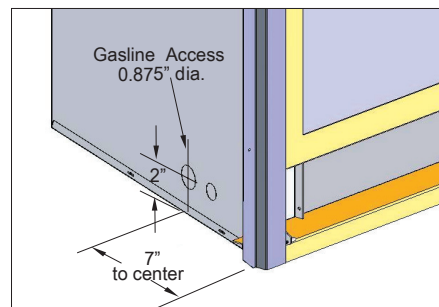

Figure 25. Gas line access.
- See Figure 25 for location of gas line access.